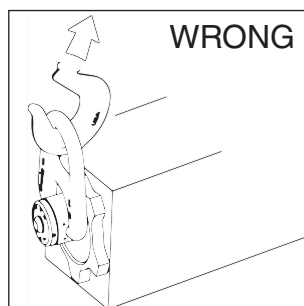

Figure 2
- Apply partial load and check proper rotation and alignment. There should be no interference between load (workpiece) and trench cover hoist ring bail (Figure 2).